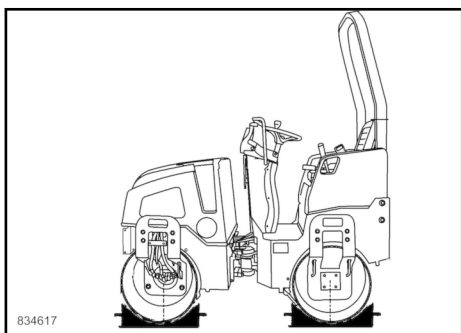

Fig. 107
1. Block the drums with suitable chocks ↪ Fig. 107.